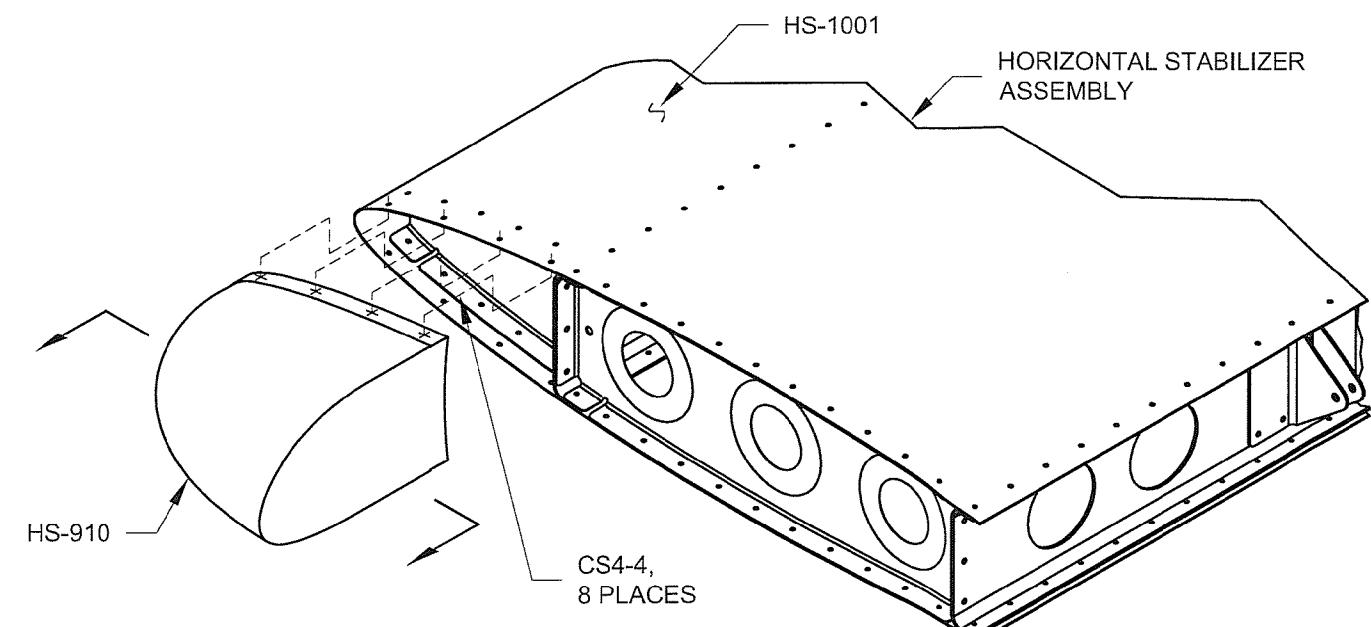

**FIGURE 3: TEMPORARY RIB**
**Step 8:** Trim a single layer of glass fabric to fit over the temporary rib and the aft edge of the HS-910 Horizontal Stabilizer Tip Fairing. Lay up this layer of glass over the temporary foam rib using either epoxy or polyester resin. See Figure 3.